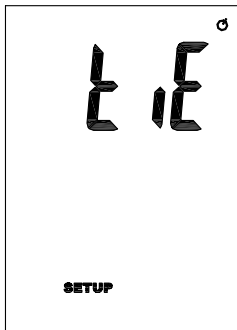

Fig. 3
2. Use the ▲/ T1-T2/T3-T4 and **Hold/▼** buttons to scroll to the **time** setting option screen (Fig. 3).